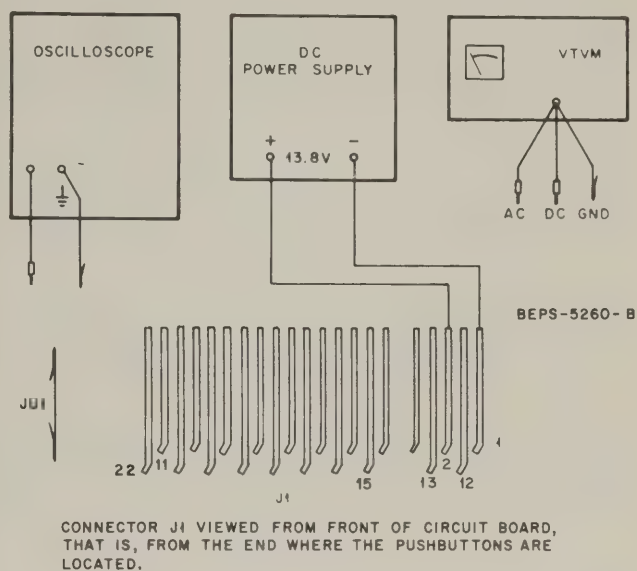

Figure 3.
- (1) DC power supply
- (2) Service bench VTVM
- (3) Service bench oscilloscope
- (4) One short jumper wire terminated in alligator clips.
Step 4. Set up the circuit card as shown in Figure 3.